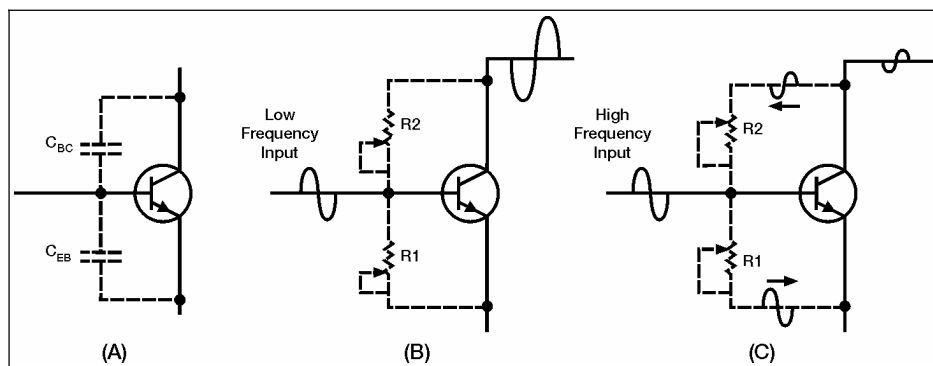

Figure 6-4. Interelectrode Capacitance of a Transistor
6-23. In addition to the other circuit components, an amplifying device (transistor or electronic tube) reacts differently to high frequencies than it does to low frequencies. Transistors and electronic tubes have interelectrode capacitance. Figure 6-4 shows a portion of the interelectrode capacitance of a transistor and the way in which this affects high- and low-frequency signals.
6-24. Figure 6-4, view (A) shows a transistor with phantom capacitors connected to represent the interelectrode capacitance. C_{EB} represents the emitter-to-base capacitance. C_{BC} represents the base-to-collector capacitance.
6-25. For simplicity, Figure 6-4 (views (B) and (C)) shows the capacitive reactance of these capacitors by variable resistors R1 (for C_{EB}) and R2 (for C_{BC}). View (B) shows the reactance as high when there is a low frequency input signal. In this case there is very little affect from the reactance on the transistor. The transistor amplifies the input signal as shown in view (B). However, when a high frequency input signal is applied to the transistor (view (C)), things are somewhat different. Now the capacitive reactance is low (as shown by the settings of the variable resistors). In this case, as the base of the transistor attempts to go positive during the first half of the input signal, a great deal of this positive signal is felt on the emitter (through R1). If both the base and the emitter go positive at the same time, there is no change in emitter-base bias and the conduction of the transistor will not change. Of course, a small amount of change does occur in the emitter-base bias, but not as much as when the capacitive reactance is higher (at low frequencies). As an output signal is developed in the collector circuit, part of this signal is fed back to the base through R2. Since the signal on the collector is 180 degrees out of phase with the base signal, this tends to drive the base negative. The effect of this is to further reduce the emitter-base bias and the conduction of the transistor. During the second half of the input signal, the same effect occurs although the polarity is reversed. The net effect is a reduction in the gain of the transistor as indicated by the small output signal. This decrease in the amplifier output at higher frequencies is caused by the interelectrode capacitance. There are certain cases in which the feedback signal caused by the interelectrode capacitance is in phase with the base signal. However, in most cases, the feedback caused by interelectrode capacitance is degenerative and is 180 degrees out of phase with the base signal as explained above.